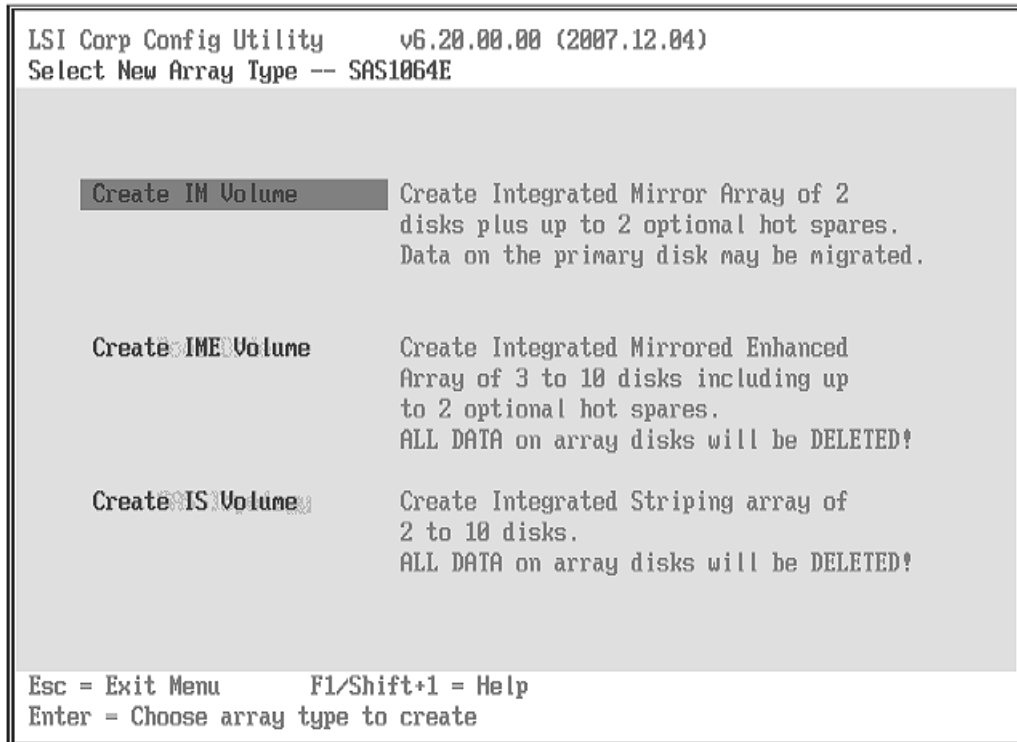

Figure 2-22 Creating IM volume
5. Select **IM Volume** to create an integrated mirror with two internal disks in the blade server, as shown in Figure 2-22.